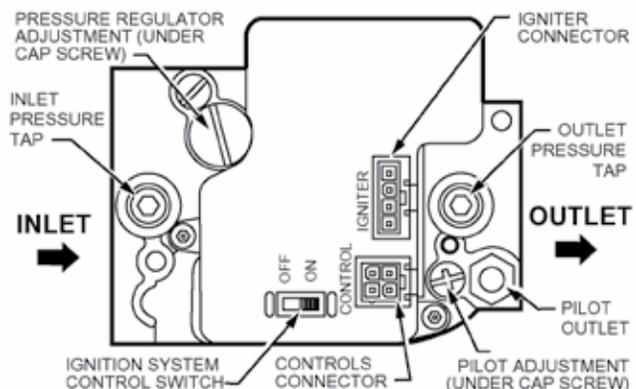

Figure 2 - Furnace Gas Control
- 7) Locate the gas control valve in the gas pipe and move the "Ignition System Control Switch" to the **OFF** position, as shown in Figure 2.
Should overheating occur or the gas valve fail to shut off the gas supply, turn off the manual gas valve (See Fig.2) to the furnace BEFORE turning off the electrical supply. Failure to follow these instructions exactly may result in a fire or explosion, causing property damage, personal injury or death.
- 5) Move the slide switch on the gas control valve to the **OFF** position (See Fig.2).